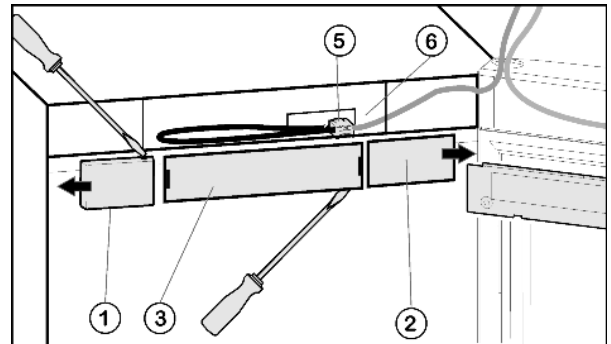

Fig. 4
- ▶ To remove cover on the handle side Fig. 4 (1): disengage on the right using a flat-blade screwdriver and push it out.
- ▶ To remove cover on the hinge side Fig. 4 (2): disengage on the left using a flat-blade screwdriver and push it out.
- ▶ Remove the front panel Fig. 4 (3) using a flat-blade screwdriver.
- ▶ Remove contact and disconnect plug connector Fig. 4 (5).
- ▶ Detach grey cable Fig. 4 (6) from the guide.
- ▶ Re-connect the plug connector Fig. 4 (5).
- ▶ Re-fit the cover Fig. 4 (3).
- ▶ Turn the cover Fig. 4 (2) 180°, attach and engage it on the hinge side.
- ▶ Turn the cover Fig. 4 (1) 180°, attach and engage it on the handle side.